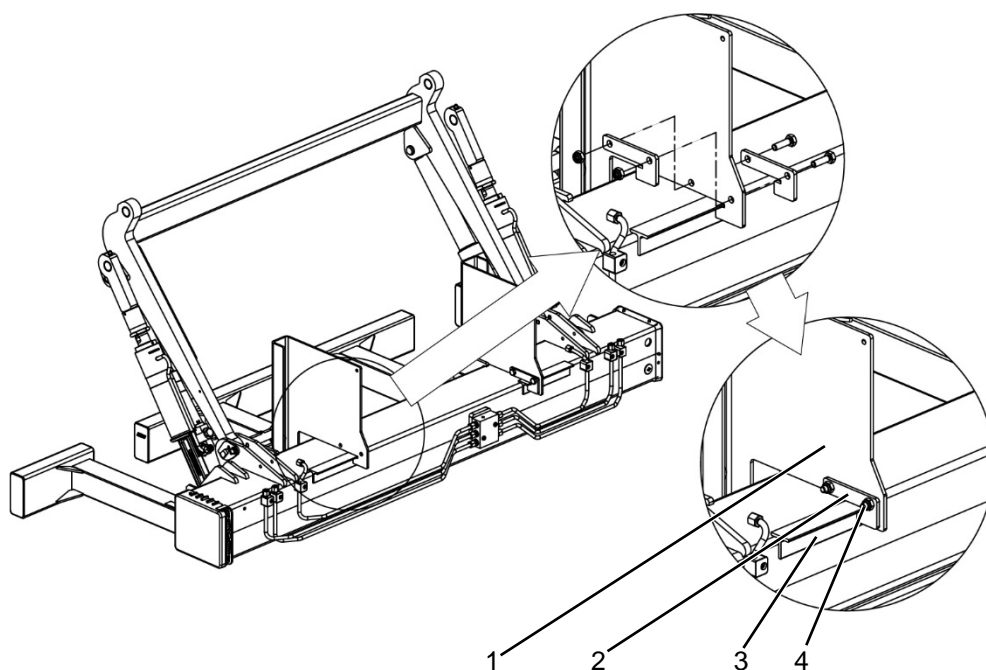

Figure 11: Reinforcement of the console plates
On the C 1000 S and C 1500 L tail lifts, the console plates must be reinforced with the mounting kit (item no. 2030247) (see Figure 11, page 32).
- Place the plates against the console plates on both sides and hook them behind the T-profiles (see Figure 11).